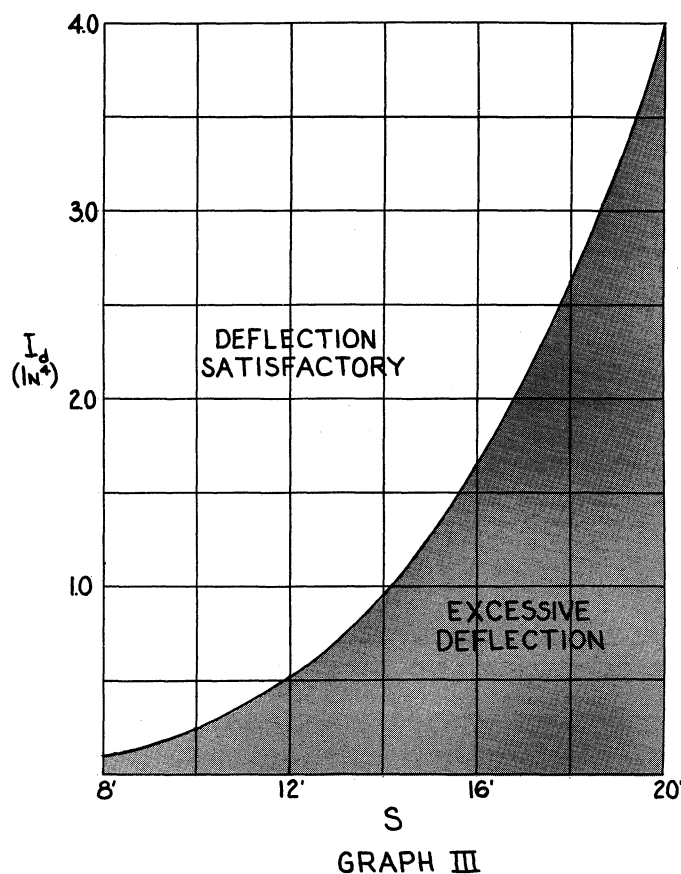

Figure 5
To complete the graphical investigation of ponding, Graph III (Fig. 5) may be used to check the stiffness of the steel deck. Plotting the intersection of the moment of inertia of the deck (I_d) and the spacing of the secondary members (S) in Graph III, the deflection is satisfactory so long as the intersecting point lies outside the shaded area.